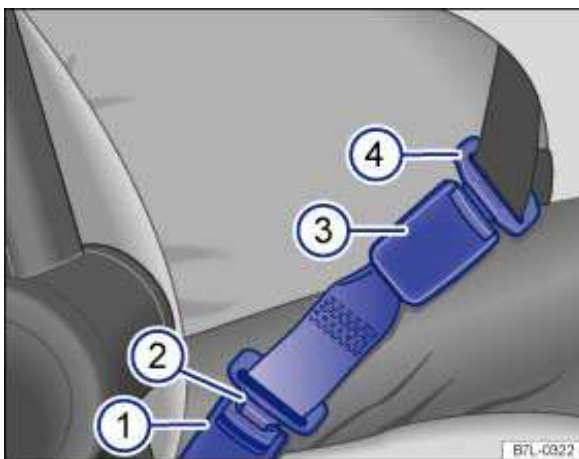

Fig. 80 A safety belt extender properly attached to the factory-installed safety belt.
Key to fig. 80:
- Insert the buckle tongue on the safety belt extender ⇒ fig. 80 \(2\) into the vehicle belt buckle for the seat where the safety belt extender is being used \(1\).